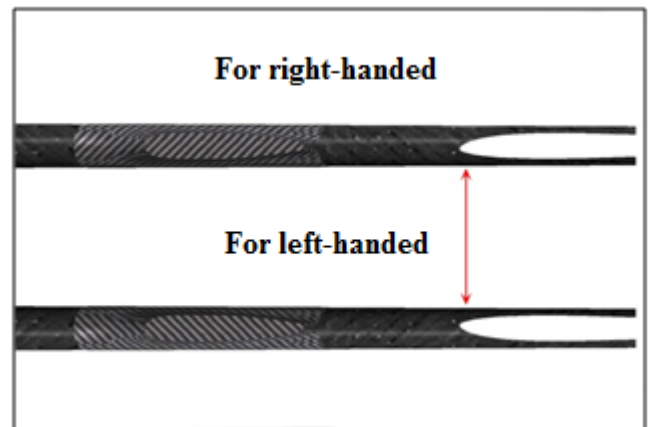

Figure 2.7 - Two versions of the fuselage (bottom view)
- because airfoil is not symmetric, we make two versions of the fuselage keel with grooves right-handed and left-handed. Fig. 2.7 shows a view on the fuselage below